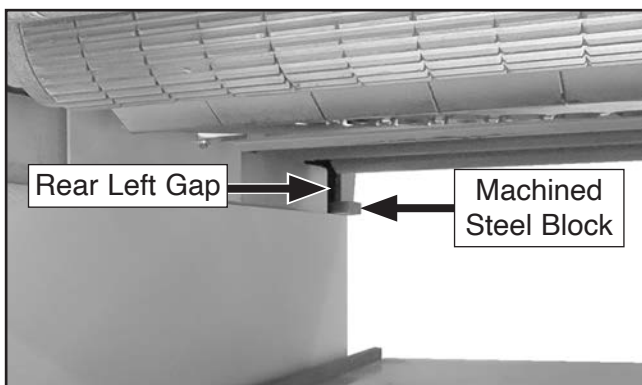

Figure 92. Steel block placed in rear left gap of machine body.
5. Carefully remove steel block from front left gap and place in gap on rear left side of machine base (see **Figure 92**).